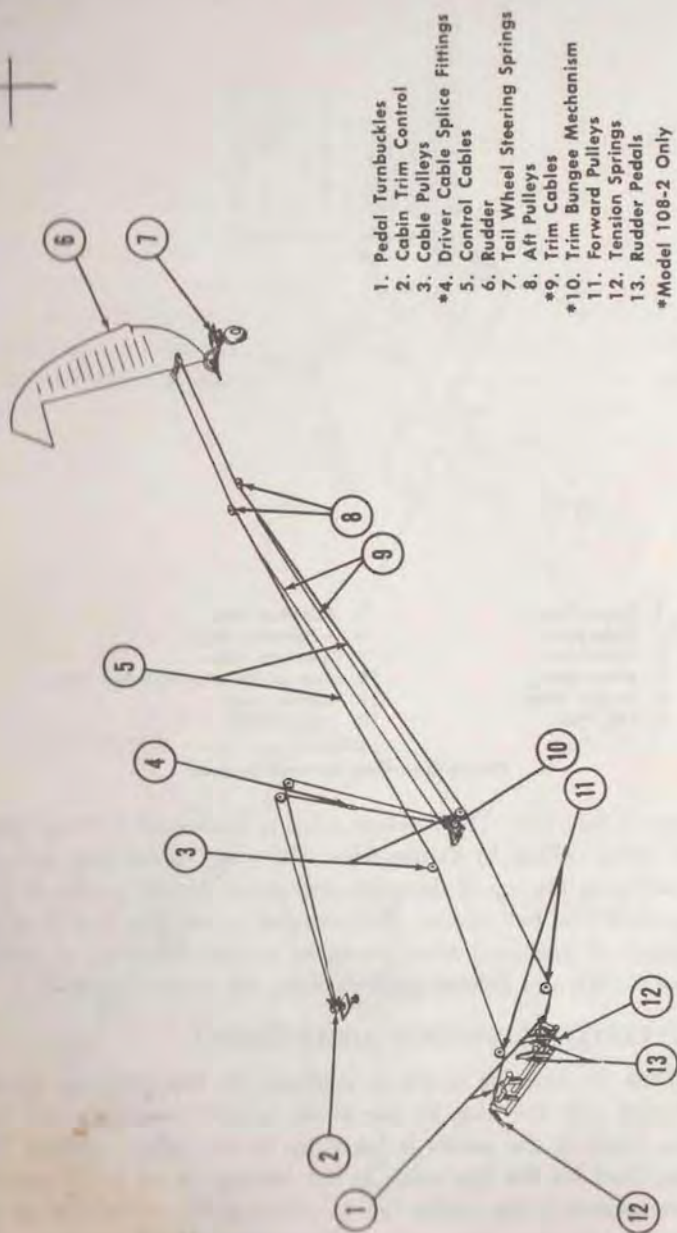

Figure 29—Rudder Control System
20. As illustrated in figure 29, the rudder is operated by either of the dual pedal controls. One pedal assembly includes both left pedals; the other pedal assembly includes both right pedals. Control cables, connected to the pedals with turnbuckles, are routed aft along the sides of the fuselage. They pass through three sets of pulleys and are attached to the rudder horn outside the fuselage. The rudder cables are kept tight by springs attached to the forward side of the pedal assemblies. The airplane has a steerable tail wheel which is controlled by springs connecting the tail wheel steering arms to a special horn at the bottom of the rudder.
23. The model 108-2 airplanes are equipped with a rudder trim bungee control. (See figure 29.) This control system consists of a knob control in the cabin ceiling and a spring bungee mechanism located behind the cabin rear wall. The control and bungee mechanisms are connected by a cable. The bungee mechanism connects to the rudder system with two cables.